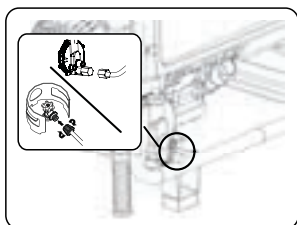

Fig 8
- Connect LPG hose to the the propane tank and to the generator; Open the valve of LPG bottle (See fig8)